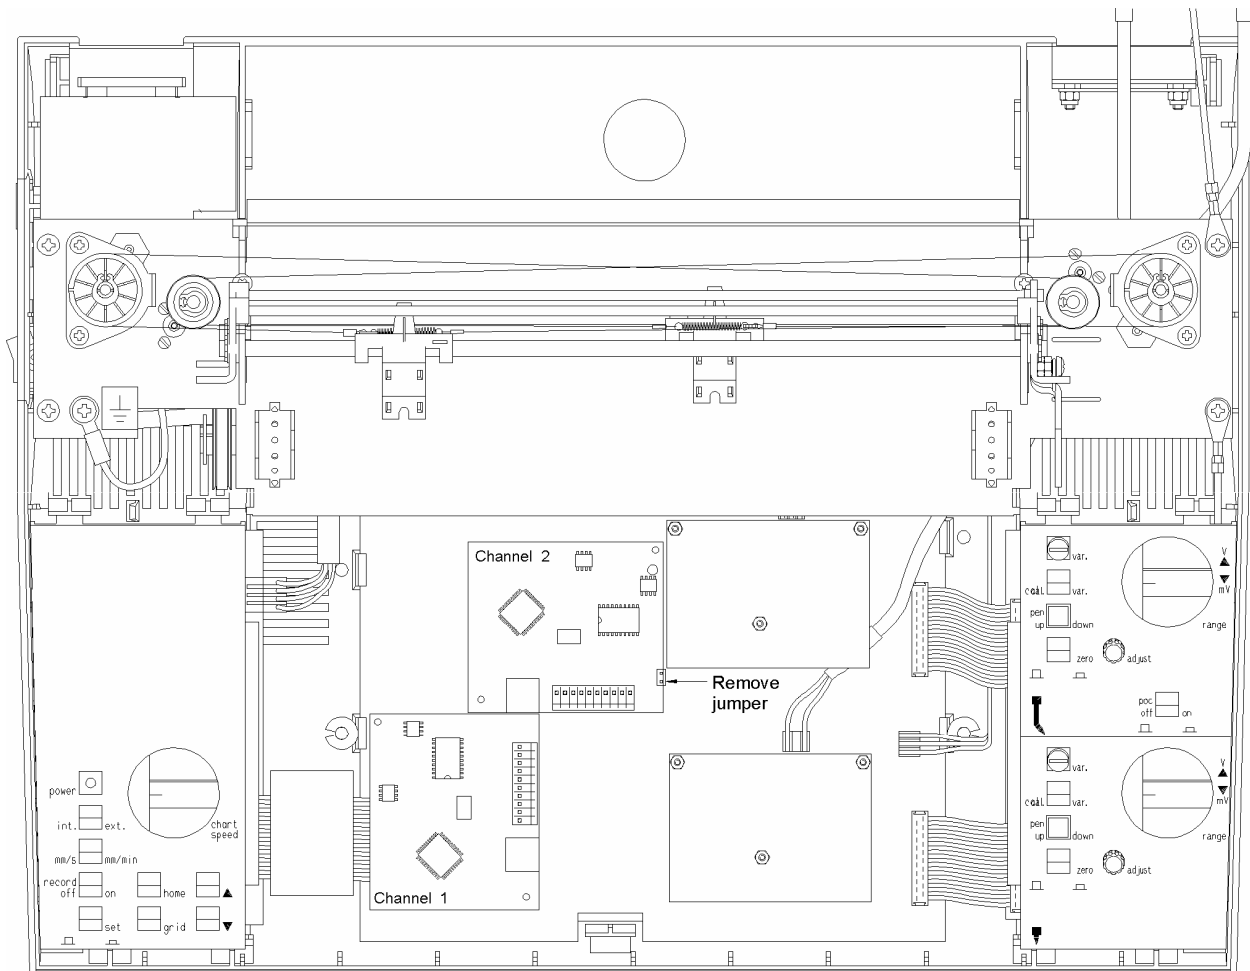

fig. B.1 Mainboard lay out with 2 POC modules
- 4) Attach the POC module(s) onto the socket, see fig. B.1. (fig B.1 shows the locations of the modules on the main board)
When the POC module for channel 2 is to be removed the same actions has to be performed as described in section B3.1. for opening the housing. Remember that the jumper has to be replaced as indicated in figure B.1 The POC module for channel 1 has no jumper.